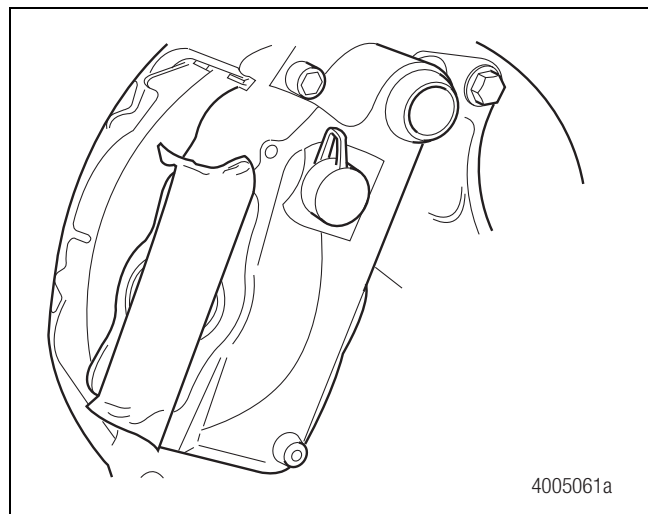

Figure 6.2
2. Cover the exposed air chamber mounting aperture with tape to prevent debris from entering the caliper housing assembly. Figure 6.2.